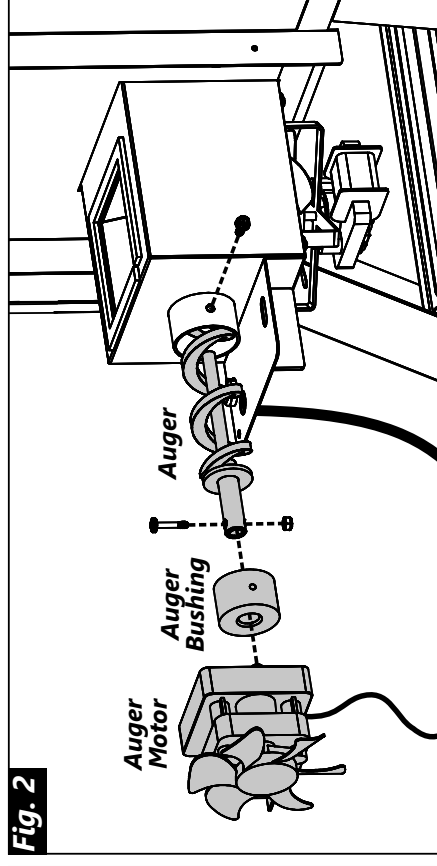

Fig. 2
7. Remove auger motor screw and nut (**Fig. 2 below**). Pull auger motor from auger.